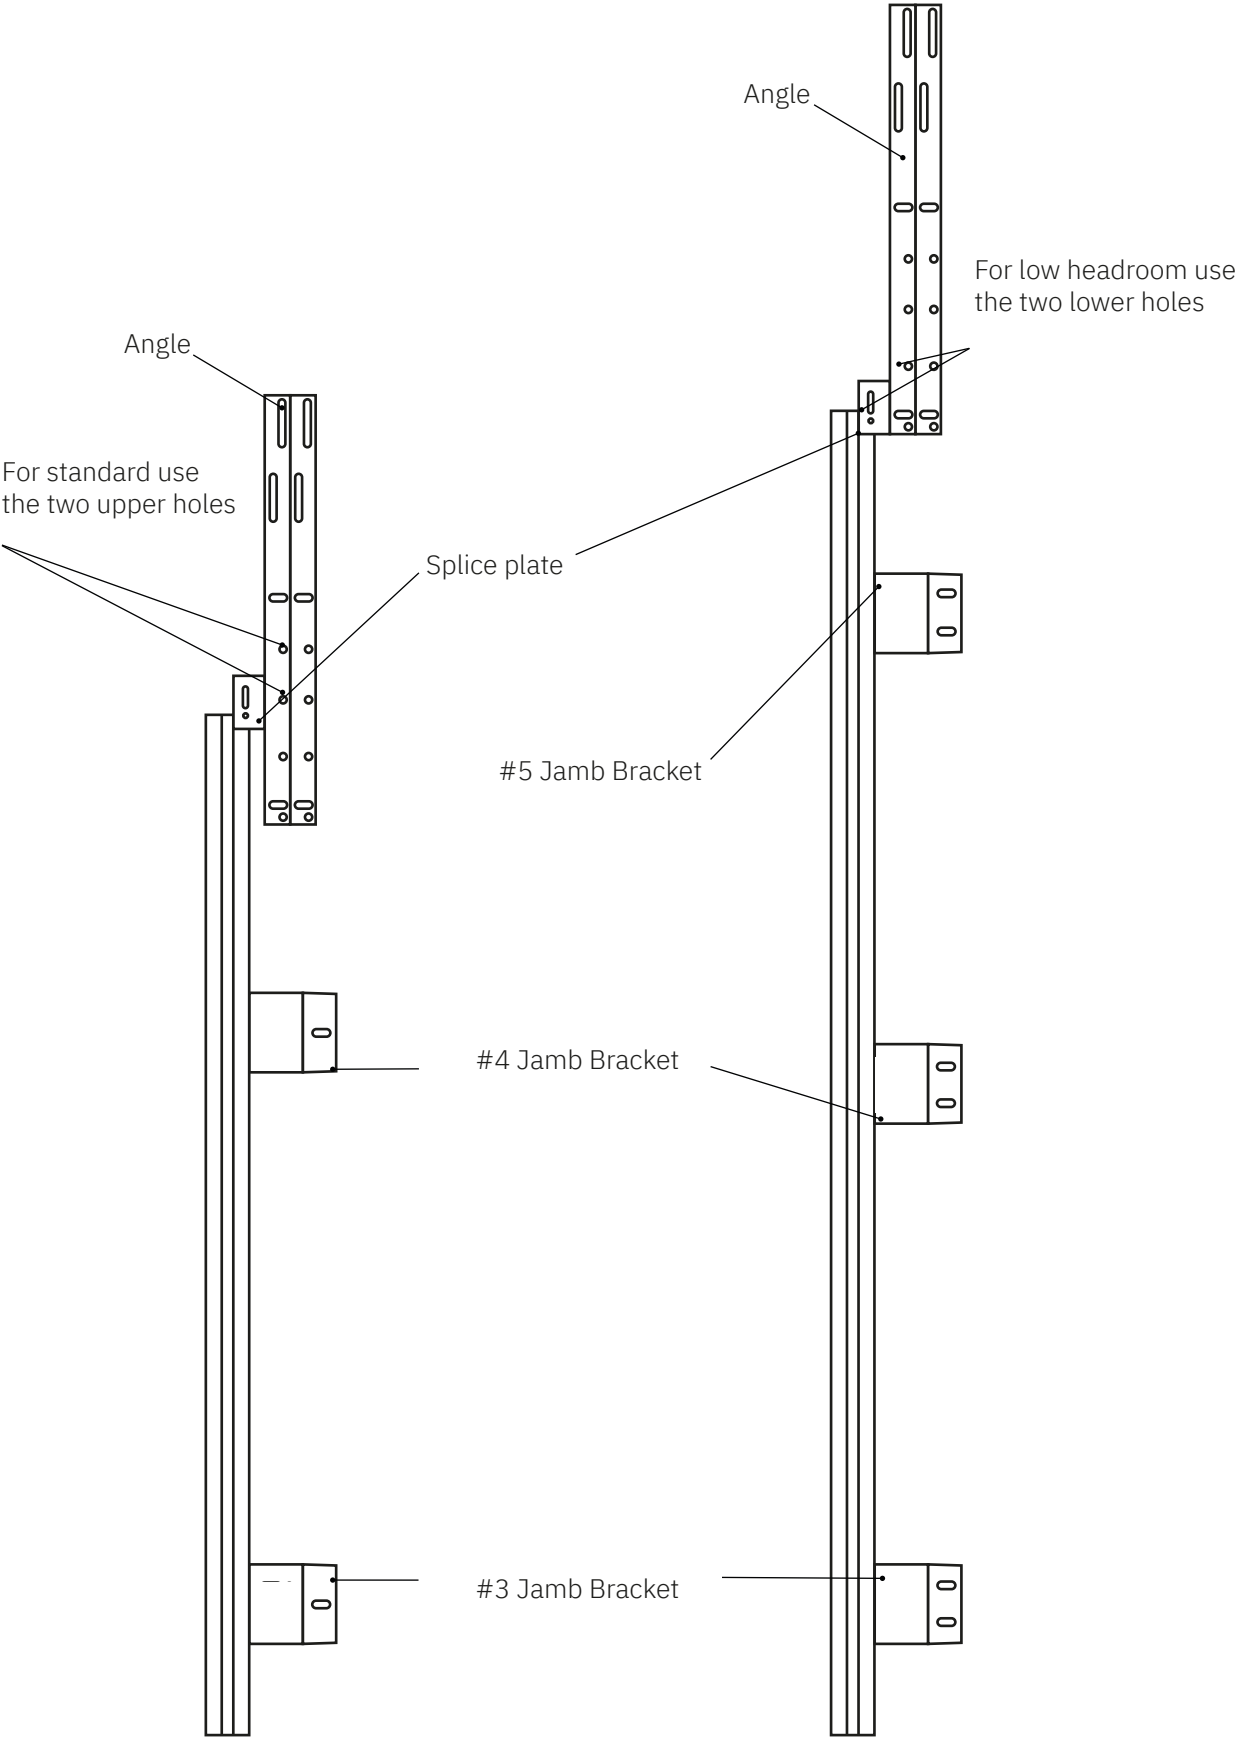

Figure 3. Location of anchor plates for hinges on 1 3/4" thick panels.
- Determine the location of the punches along the panels (interior side) that indicate the location of the anchor plates to screw your centre hinge in place (see Figure 3).